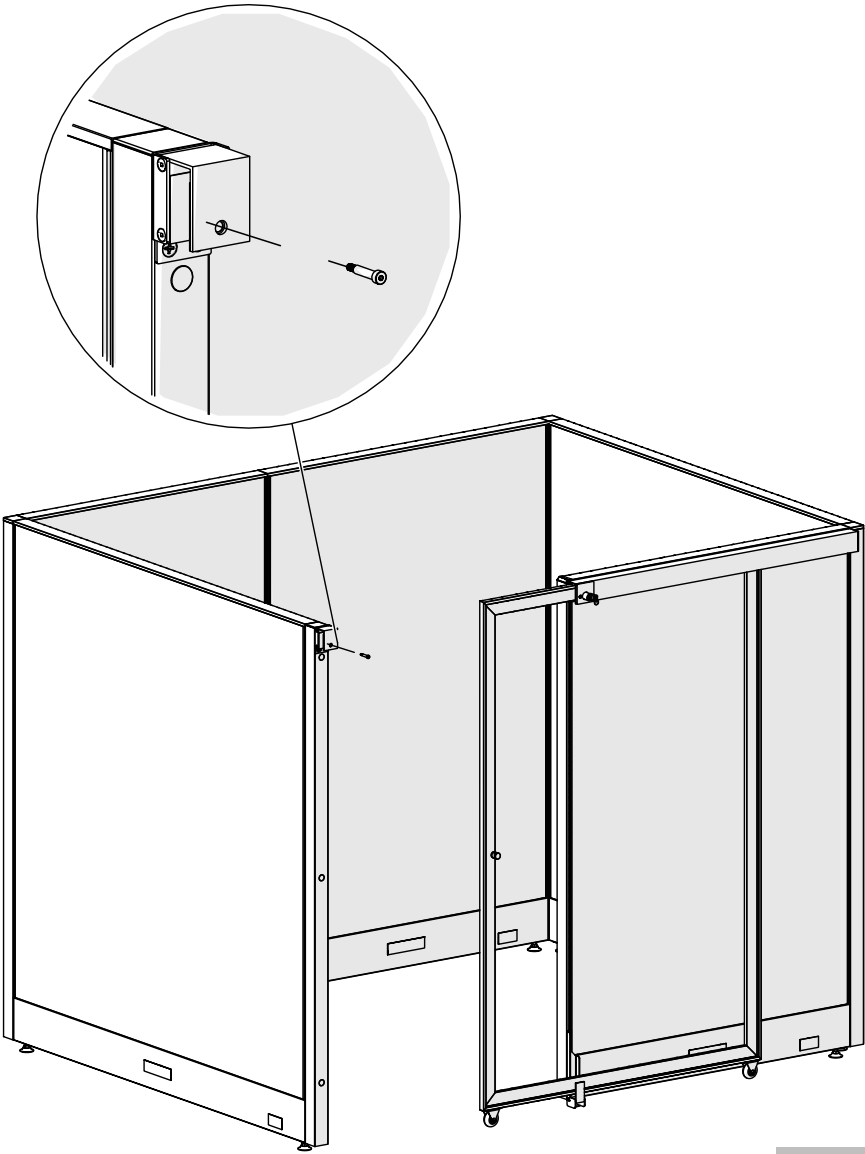

Figure 5
- 5. Insert the nylon shoulder screw (8540-1375) into the topmost hole of the sliding vertical post; screw it by hand tightening, (Figure 5).